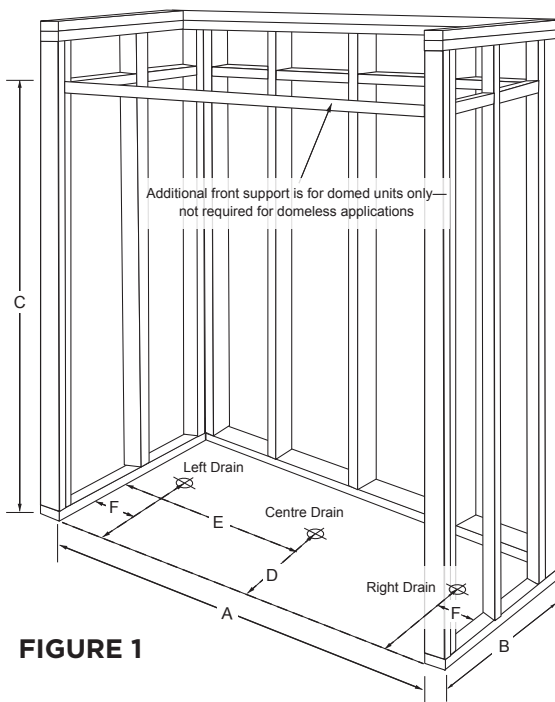

FIGURE 1
1. Build a solid frame using dimensions listed in **Table 1 - Technical Data** (see insert). (**Figure 1**)